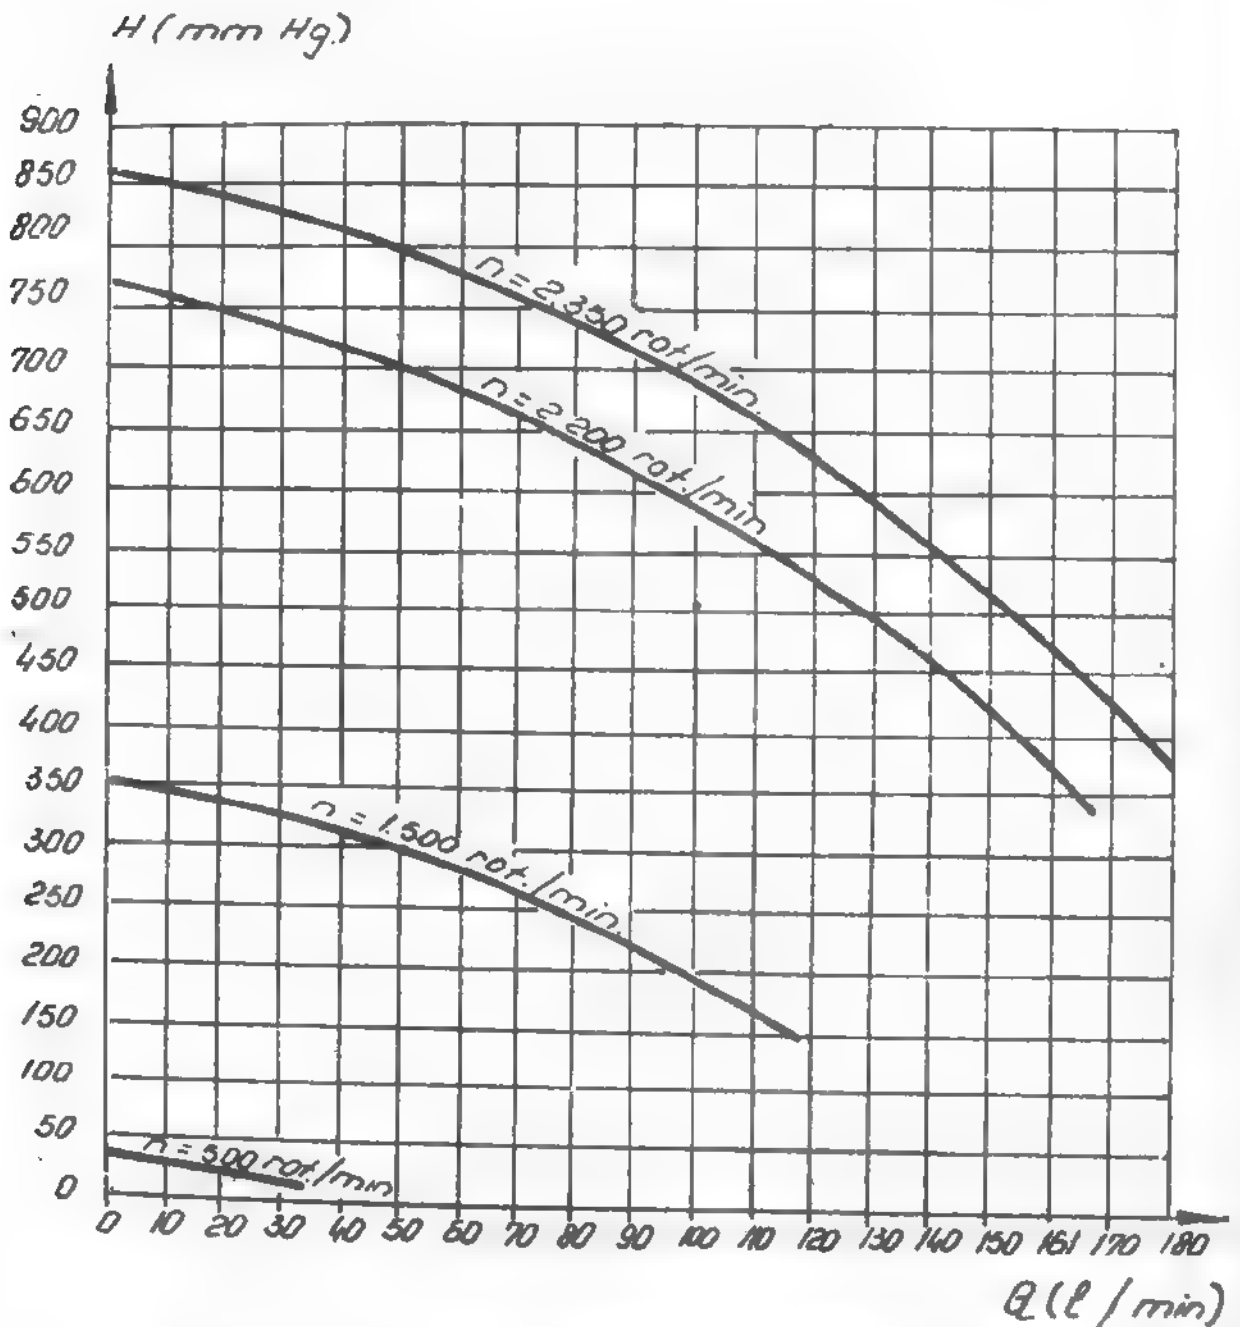

Fig. 4. 19. WATER PUMP CHARACTERISTICS AT DIFFERENT SPEEDS AND STATIC PRESSURES.
The characteristics of the pump, at different speeds, are given in graph (fig. 4. 19).
The pump body is an aluminium casting. Its shaft is fitted with two shielded, selflubricating ball bearings (9) - see fig. 4. 20 -